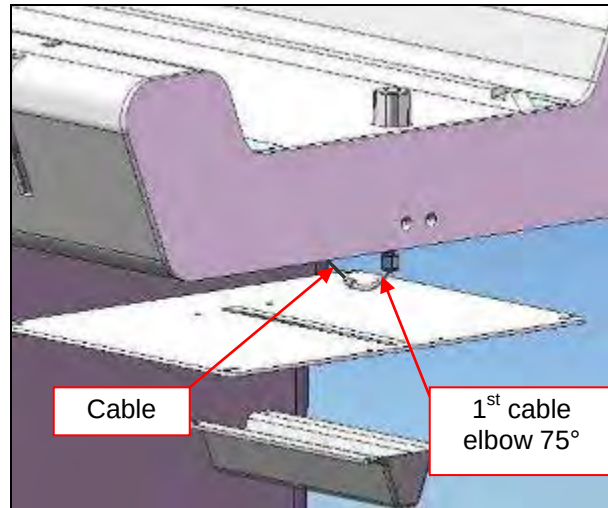

Figure 136
2. Unscrew four mounting screws to remove Cable Elbow Guard to expose the first 75° cable elbow (Figure 136).